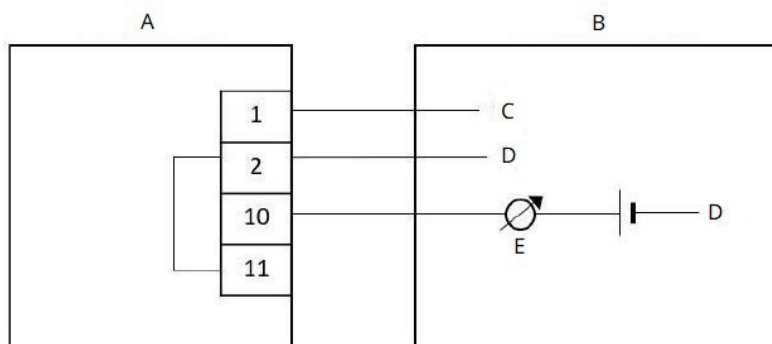
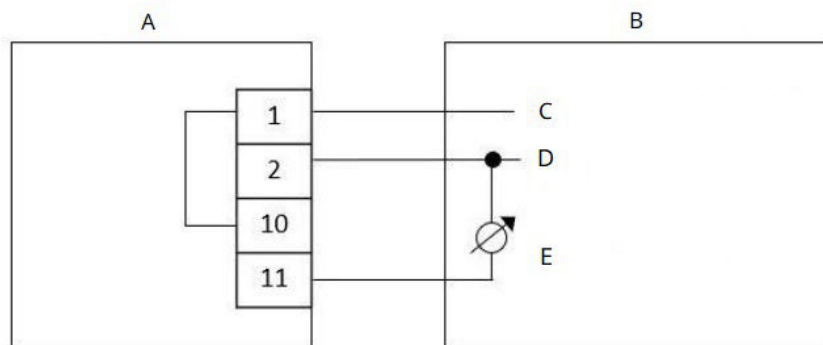

**Figure 2-11: Typical wiring for four-wire controllers**
**Figure 2-13: Sink four-wire**
2. Use Figure 2-11, Figure 2-12, Figure 2-13, and Figure 2-14 for typical wiring configurations.